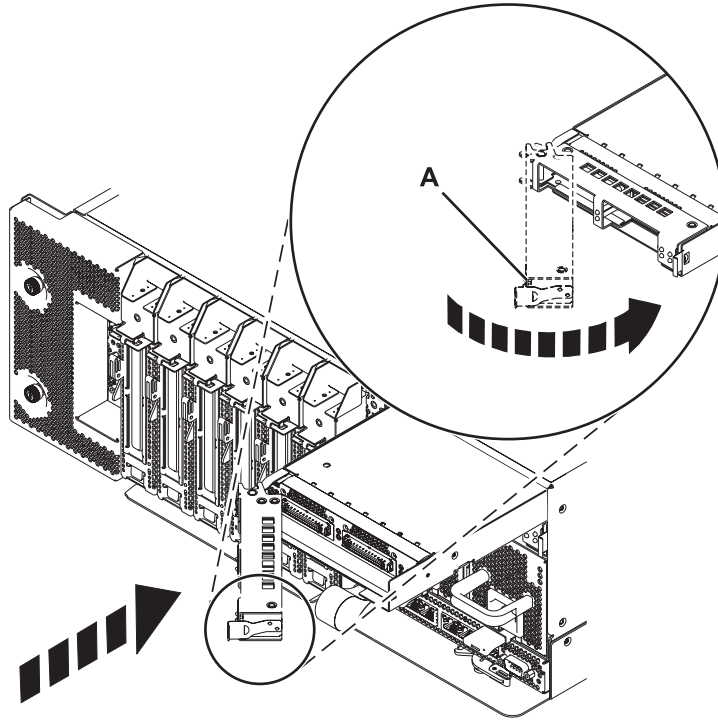

Figure 4. Installing a GX adapter in the system
6. Move the handle (A), shown in Figure 4 on page 10, toward the system until the handle stops against the adapter.